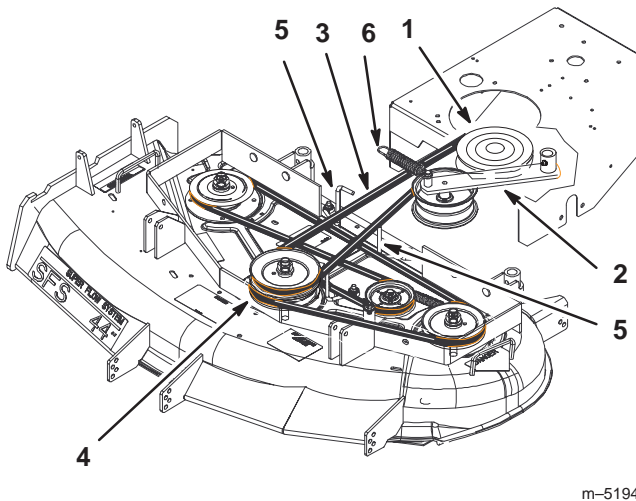

Figure 63
4. Remove the idler spring from idler arm. Remove the drive belt from the PTO engagement pulley and the center spindle pulley (Fig. 63).
5. Remove the worn drive belt (Fig. 63).
6. Install the new drive belt onto the PTO engagement pulley and the top groove of the center spindle pulley (Fig. 63).
7. Install belt onto idler pulley and then install idler spring (Fig. 63).
8. Adjust PTO drive belt guides an 1/8 in. (3 mm) from belt (Fig. 63).